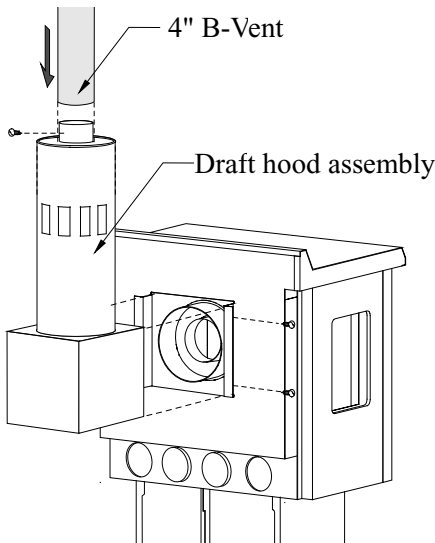

Figure 22. Attaching the draft hood assembly and the first B-Vent section.
3. Attach the draft hood assembly to the back of the stove and secure with four sheet metal screws as shown in Figure 22.